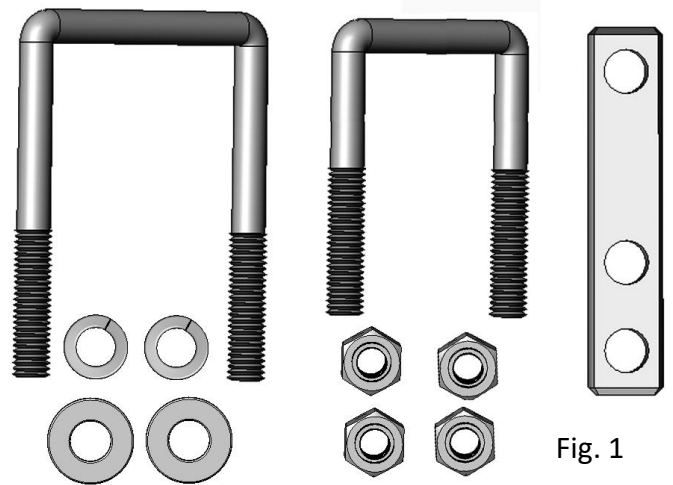

Fig. 1
1. Check the package contents per Fig. 1.